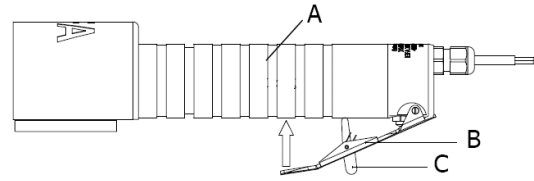

Fig. 2 Switch operation
- To switch on, actuate the switch with the index and middle fingers and pivot the switch lock (c) away (see Fig. 2).